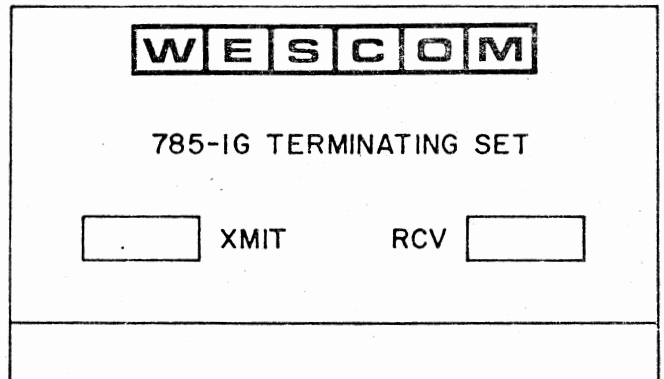
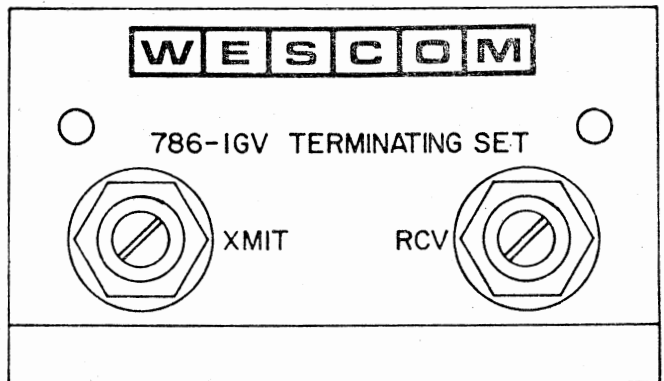
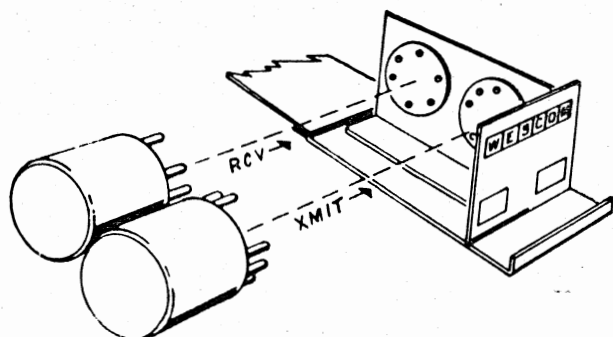

Fig. 1A Front View
Fig. 1B Front View
Fig. 3
1.03 The 785-1D and 785-1G units are designed to include XMIT and RCV sockets for plugging in 89 type pads (See Figs. 1A and Fig. 3). The 786-1DV and 786-1GV are designed with two individual three section adjustable T-pads (See Fig. 1B). Both the plug-in and adjustable pads set the 4-wire levels.
4.01 The 785-IG and 785-ID use type 89 plug-in pads and in order to change values it requires removal of the terminating set from the mounting shelf. The pads are removed or inserted from the left side of the card as observed from the front (See Fig. 3). The transmit pad is located nearest the front plate and the receive pad is nearest the printed circuit card (See Fig. 3). After the proper value pads have been inserted into the XMIT and RCV sockets, indicate the pad values by using a grease pencil or marking tape in the appropriate boxes on the front of the unit. If strapping is not required, replace the terminating set into its proper connector on the terminating shelf.